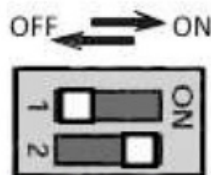

Figure 3: 0-5V Output
Step 1 – Be sure the white Output mode DIP switch is in the proper configuration. For 0-5V output, DIP switch #1 must be in the LEFT position and DIP switch #2 must be in the RIGHT position (see Fig 2). For 0-10V output, both #1 and #2 DIP switches must be in the RIGHT positions (see Fig 3).